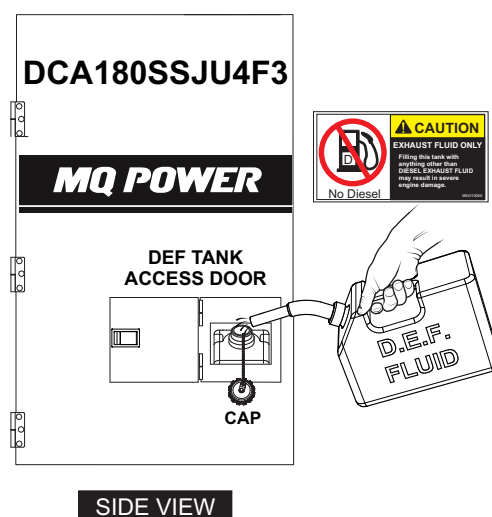

Figure 44. DEF Tank Filling (DCA180SSJU4F3)
3. For DCA180SSJU4F3 generators, open the **DEF access door** (Figure 44), remove the filler caps, and fill with DEF fluid.